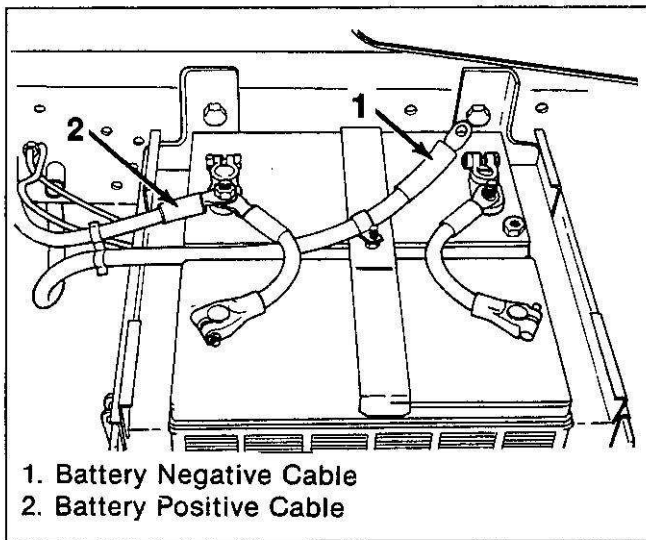

Figure 1. Battery Cable Identification
1. Battery negative cable (1) at the battery (figure 1).
33. Connect the main feed wire (5) at the starter, and the battery negative cable (1), at the battery (figures 1 and 2).